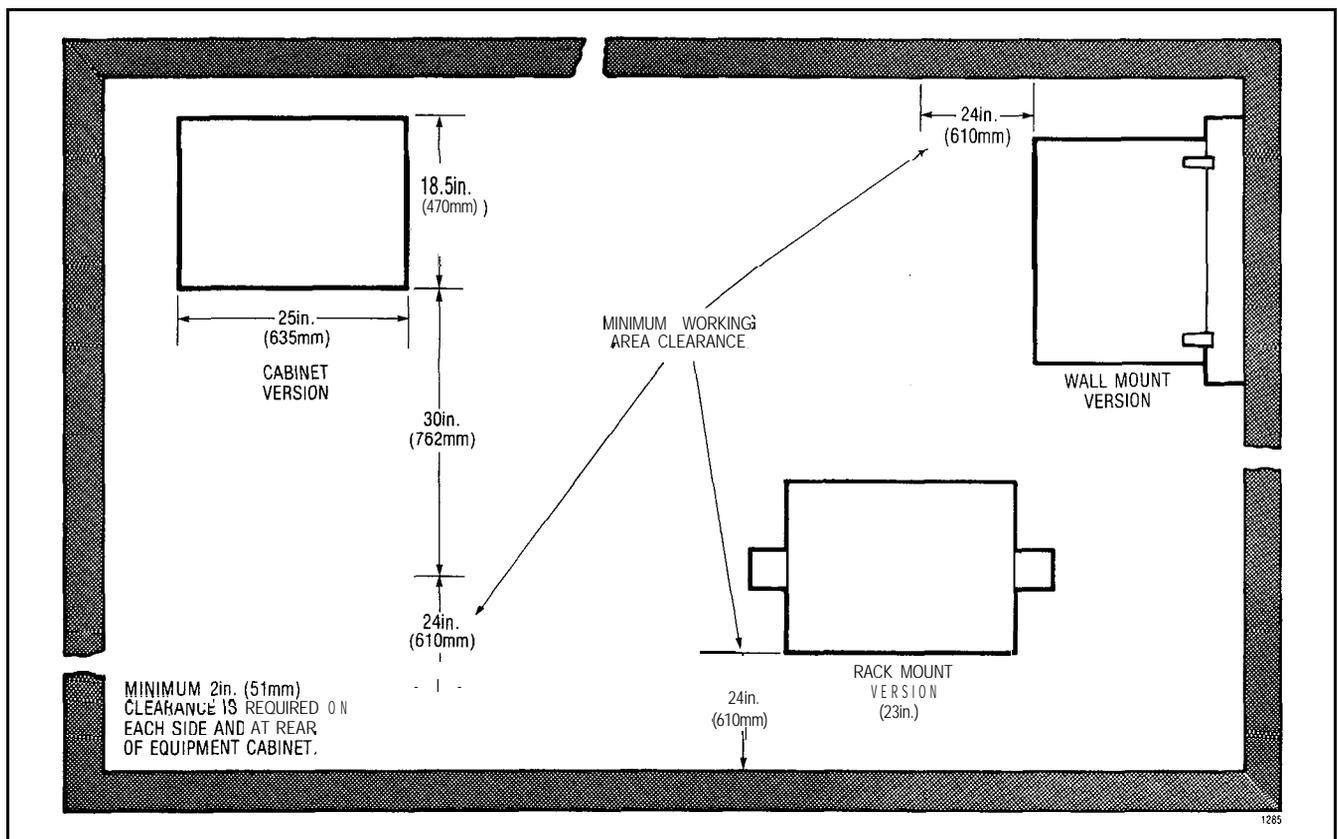

Fig. 9-1 SX-100 Minimum Equipment Cabinet Floor Space Requirements
9.02 The minimum floor space for installation and subsequent maintenance of the SX-100 and SX-200 Electronic PABXs is shown in Figs. 9-1 and 9-2 respectively.